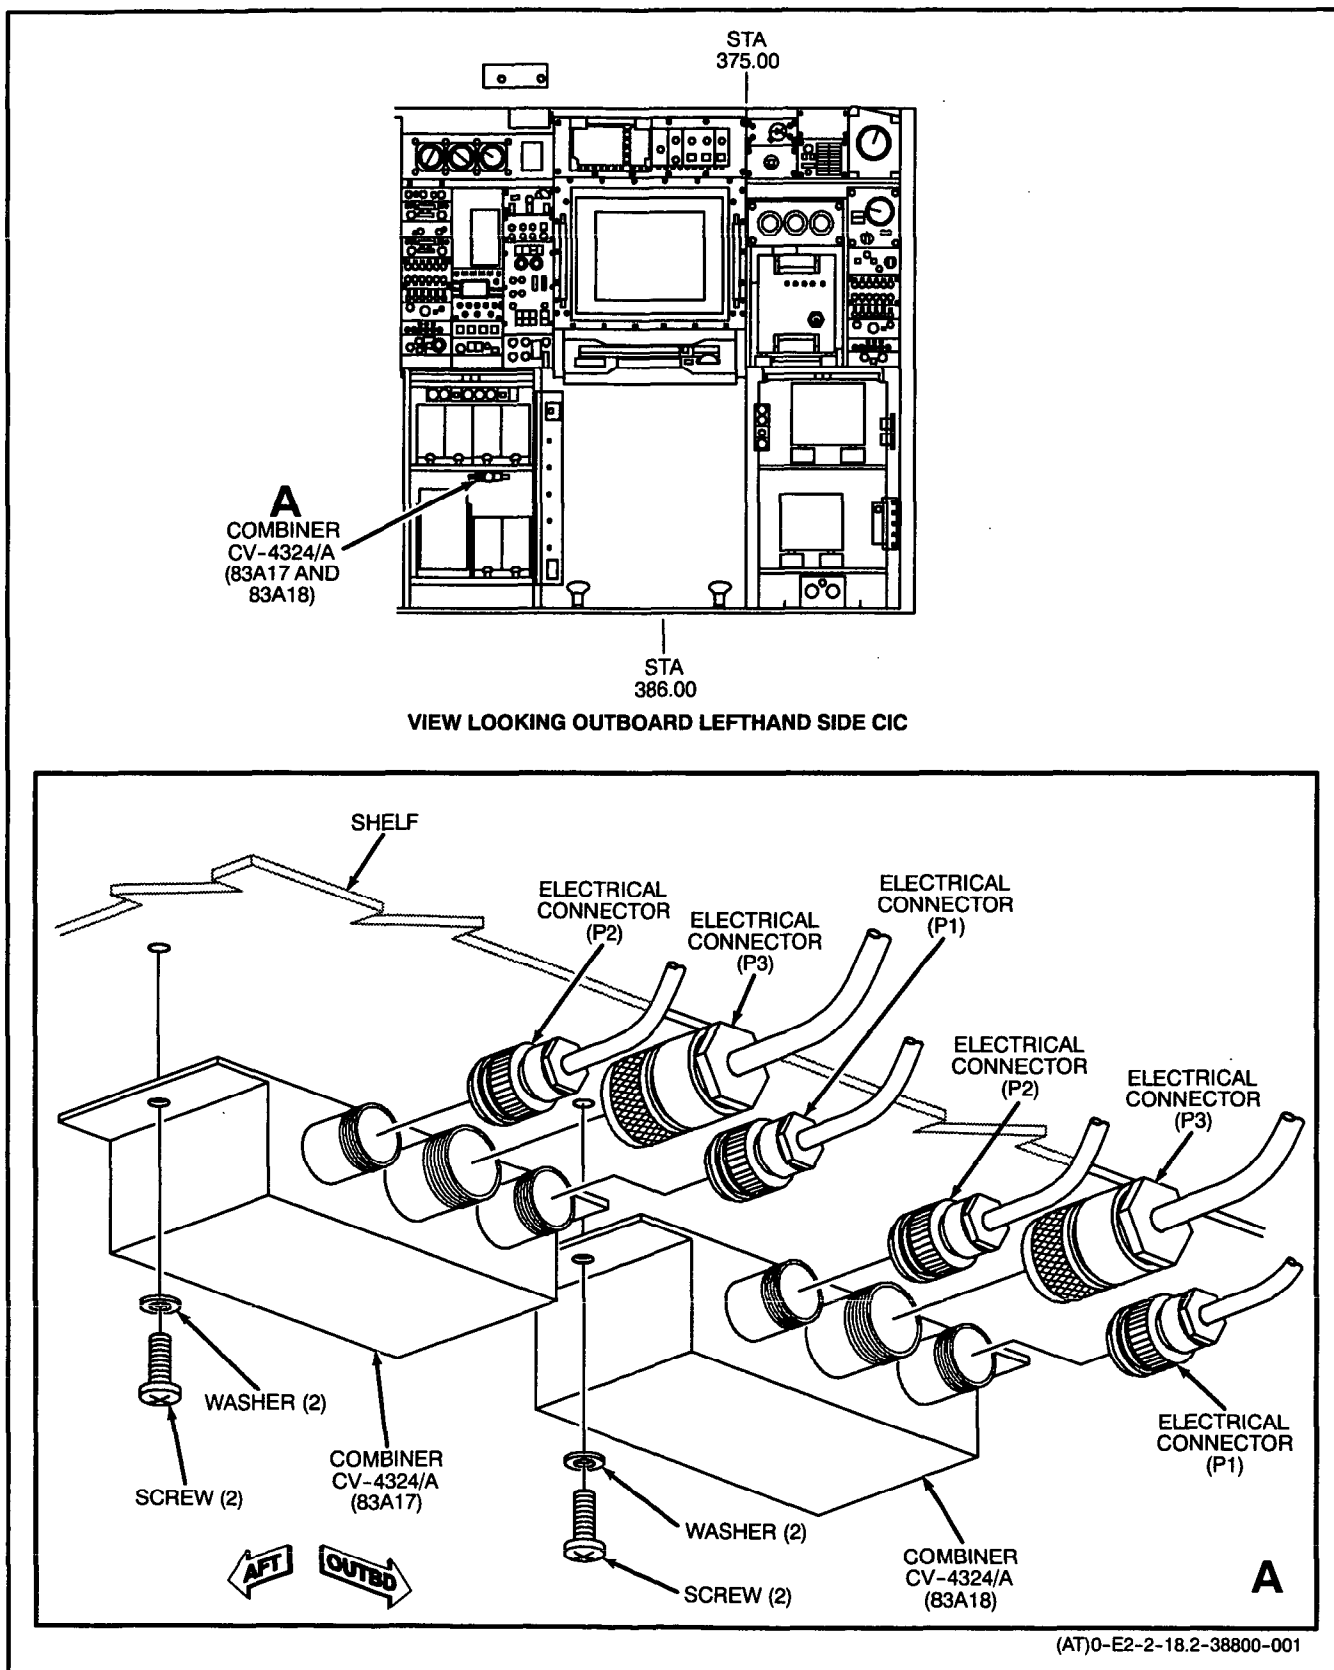

Figure 1. Removal and Installation of Combiner CV-4324/A (83A17 and 83A18)
**1. REMOVAL. (Figure 1.)**
**2. INSTALLATION.** (Figure 1.)